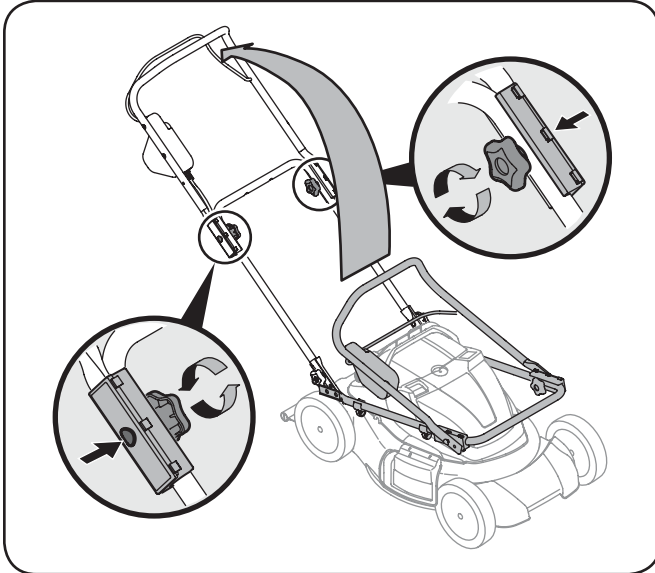

Figure 3-1
- b. Gently lift and pivot the upper handle into the operating position as shown in Fig. 3-1.